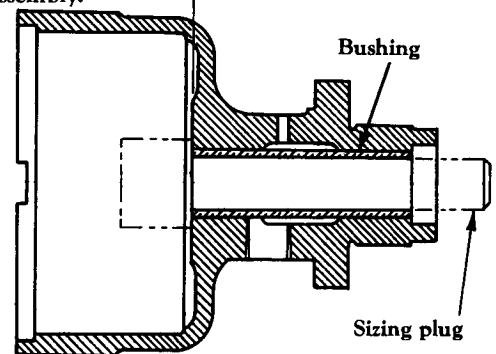

Fig. 15 - Bushing Installation.
19. If the bushing is excessively worn or scored, a new bushing must be installed. Refer to Par. 4, Step 2 and Fig. 15.
Replace with new shaft bushing (Fig. 15).